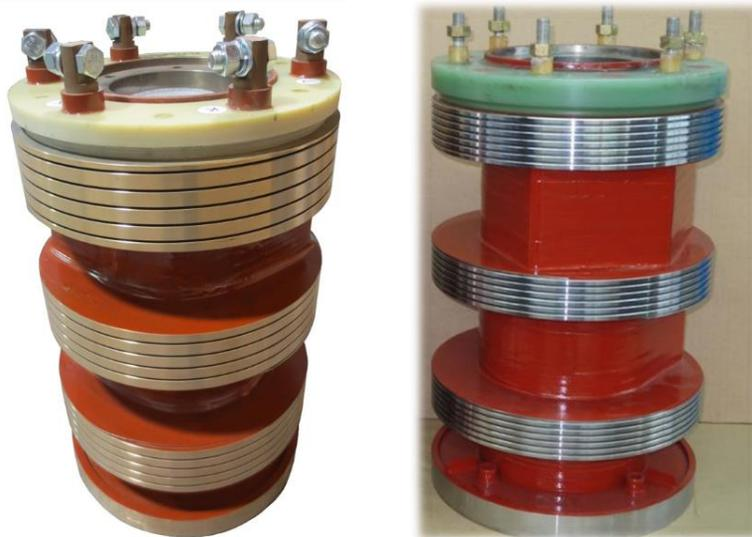

Figure 5 - (Left) Mersen SR 13-15 bronze ring
- Figure 5 shows the two primary types of slip rings found in the GE Hitachi wind turbines: stainless steel and bronze